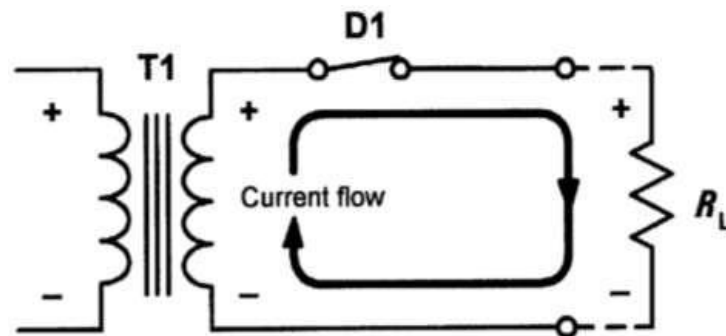

Figure 1.4 Half-wave rectifier circuit with D1 conducting (positive-half cycles of secondary voltage)
- During positive half cycle, the diode D1 is forward biased and acts as a closed switch as shown in figure 1.4, thus diode allows the current flows